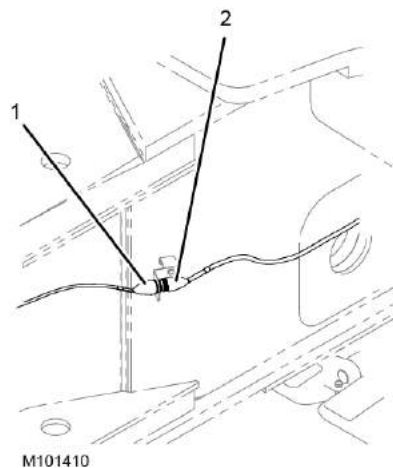

FIGURE 4-58
13. Slowly lower the crawler, mast up, and swing to engage the crawler hooks (5) with the carbody pins (6).
15. Using the remote control, engage the crawler pins (4).
17. Connect the carbody electrical cable (1, Figure 4-58) to the crawler electrical cable (2, Figure 4-58).